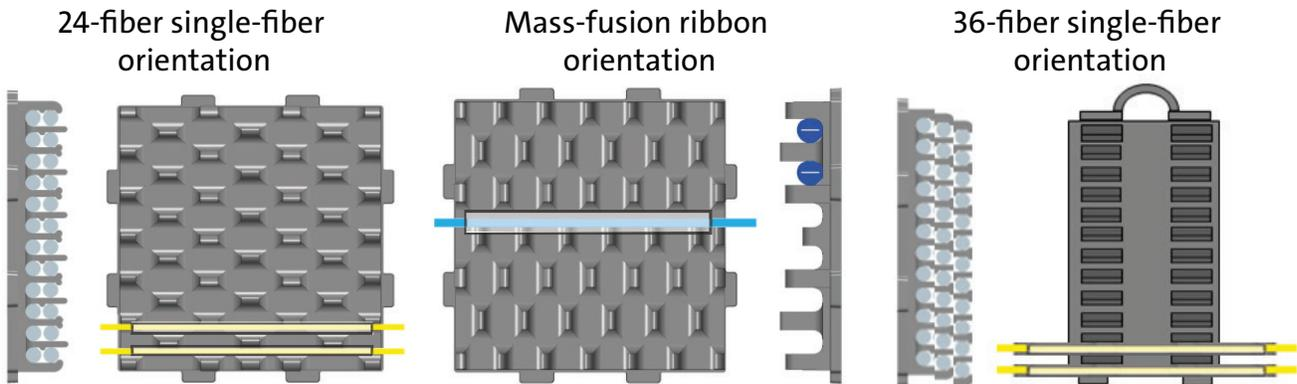

Figure 38
**NOTE:** When placing spliced fibers in the splice organizer, it may be necessary to lift the organizer and rotate it 90 degrees from its factory-installed orientation (Figure 38).